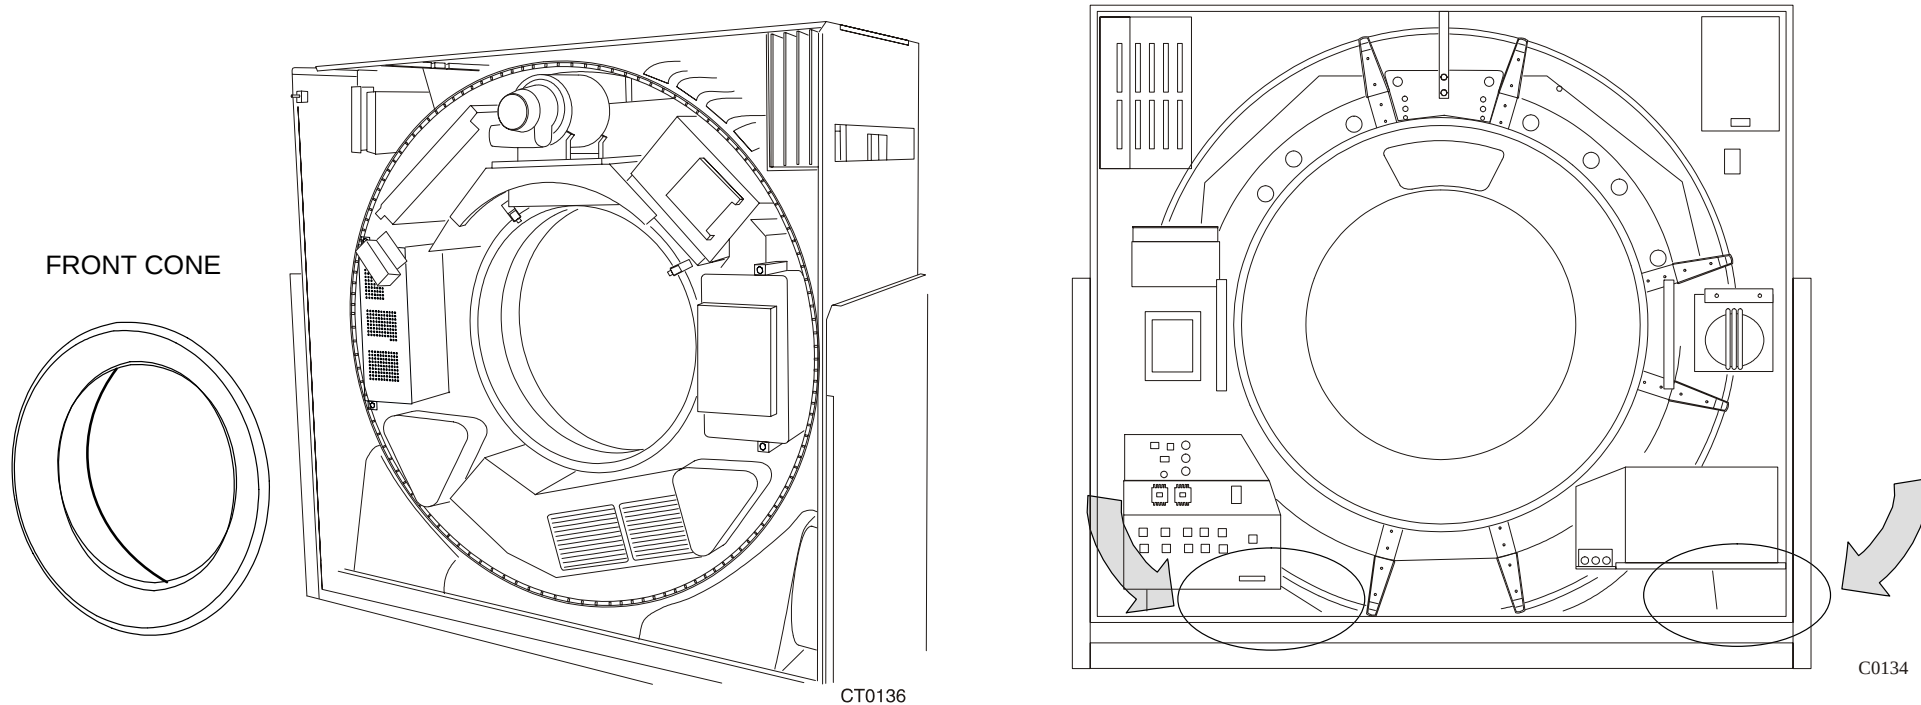

FIGURE 21 AcQSim CT GANTRY FRONT CONE AND CABLE ACCESS COVERS (REAR)
3. Remove the two cable access covers at the lower rear corners of the Gantry base to gain access to the bolt holes. Remove the shipping covers in the bottom of the cable trough. See Figure 21.